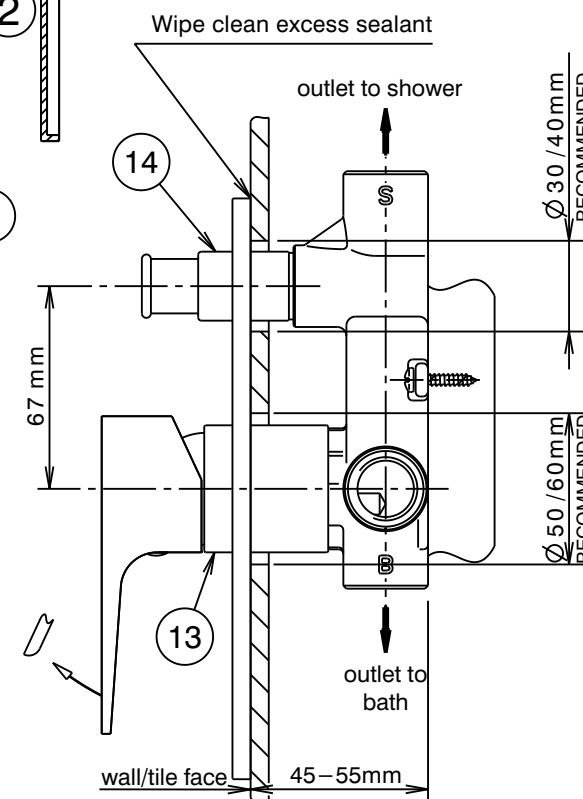

Fig. 1
Installation (Fig. 1 & 2)
- 2) Apply a suitable clear sealant to the back edge of the cover plate (5), leaving an unsealed section at the bottom for drainage. Carefully slide the cover plate (5) onto the mixer body (13) and the diverter sleeve (14), ensuring that the 'O'Rings (6) remain in their grooves, then push the cover plate firmly against the wall/tile face. Wipe clean any excess sealant from the chrome surfaces & the wall/tile face (See Fig. 1).
- 3) Fit handle (1) taking care that it is pushed fully down, tighten screw (2) using the 2.5mm allen key (3) then fit plug (4).